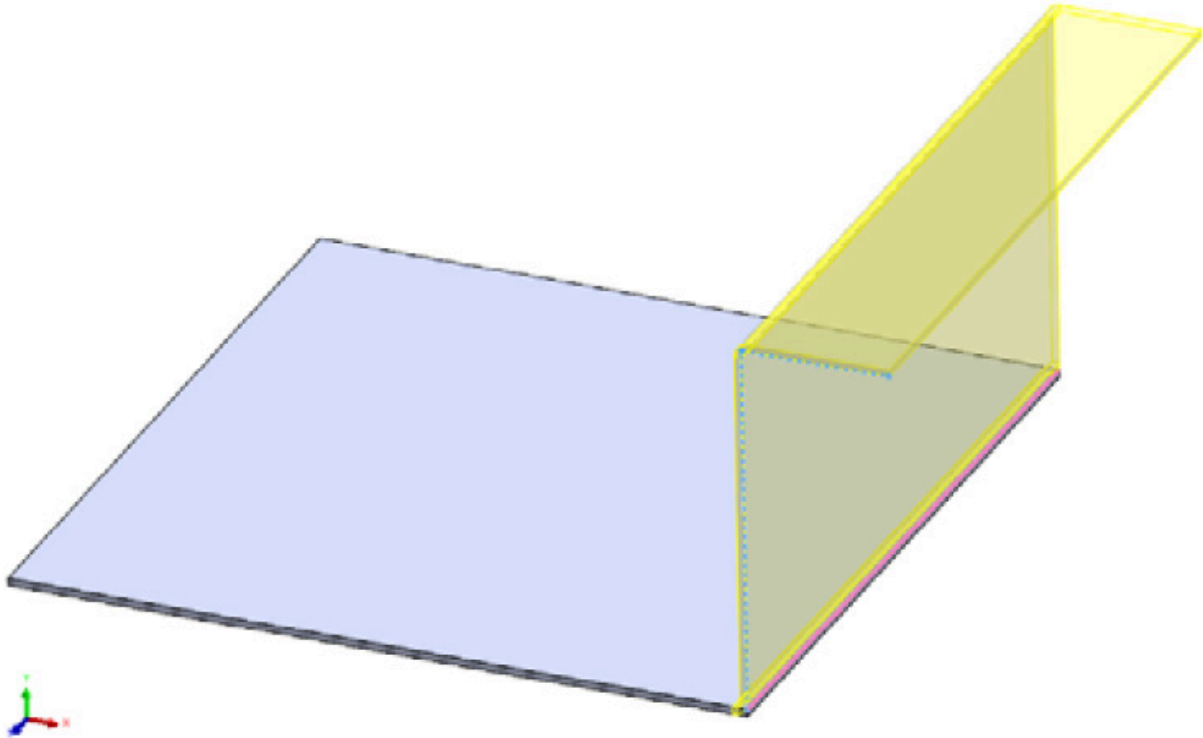

Figure 5.2: Swept Flange preview
5. Next, select the **Path** to be used with the **Swept Flange**—for example, the existing side of the **Base Flange**. A yellow preview of the flange should appear, as illustrated in *Figure 5.2*.